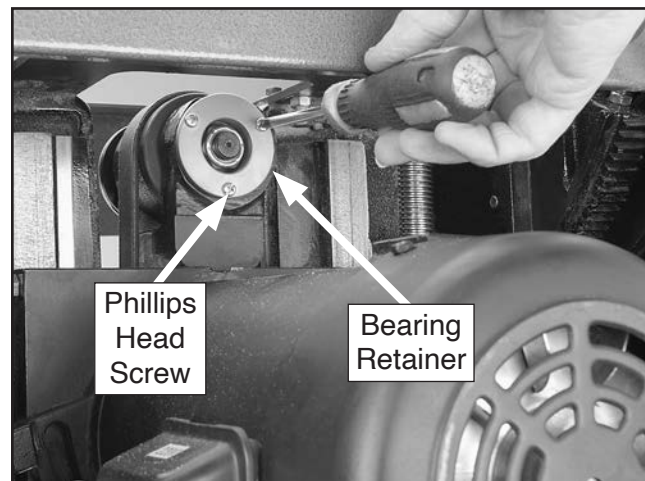

Figure 132. Removing bearing shield.
10. Remove (3) Phillips head screws on bearing retainer, shown in **Figure 132**, then remove retainer.